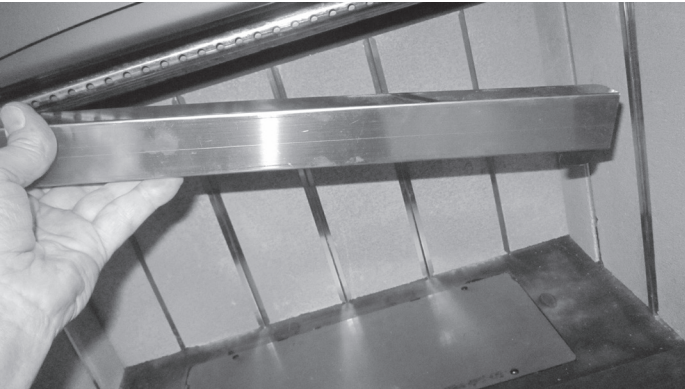

Figure 4.5 Removing Baffle Protection Channel
2. Remove the baffle protection channel by lifting it up and turning it down and pulling it out of the firebox. See Figure 4.5.